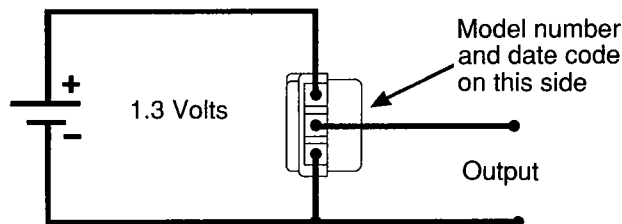

Figure 1 (Negative Terminal Common)
d.c. Voltage at Output Terminals (See Fig. 1):